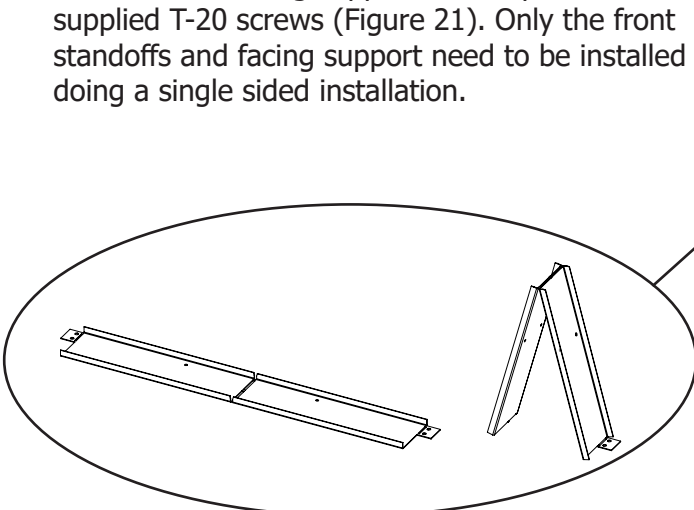

Figure 20: Nailing Flange Assembled
2. Bend top standoffs by hand to form general shape (see Figure 20).